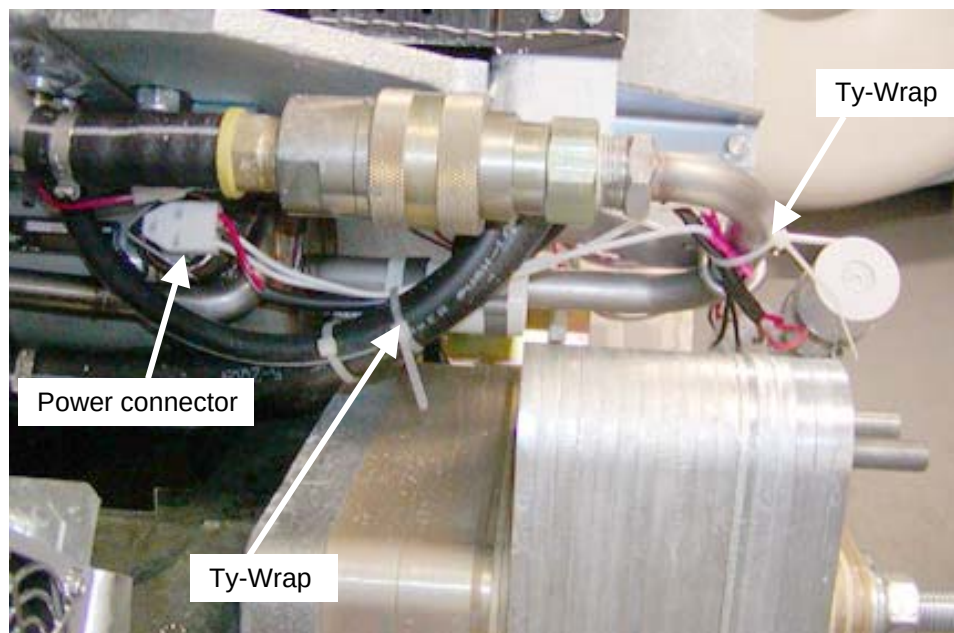

Figure 12 Harness Routing
20. Route the harness under the black pump hoses as shown in Figure 12. Connect the pump wire harness connector to the Heat Exchanger (J52) and to the pump power connector. Use cable ties to strap the wiring to hoses/tube in the two locations shown in Figure 12. Cable ties should be snug but not pinching wires or tubing and wires to connectors should **not** be pulled tight. The tubes will expand and contract due to oil temperature. Cut off any cable tie excess.